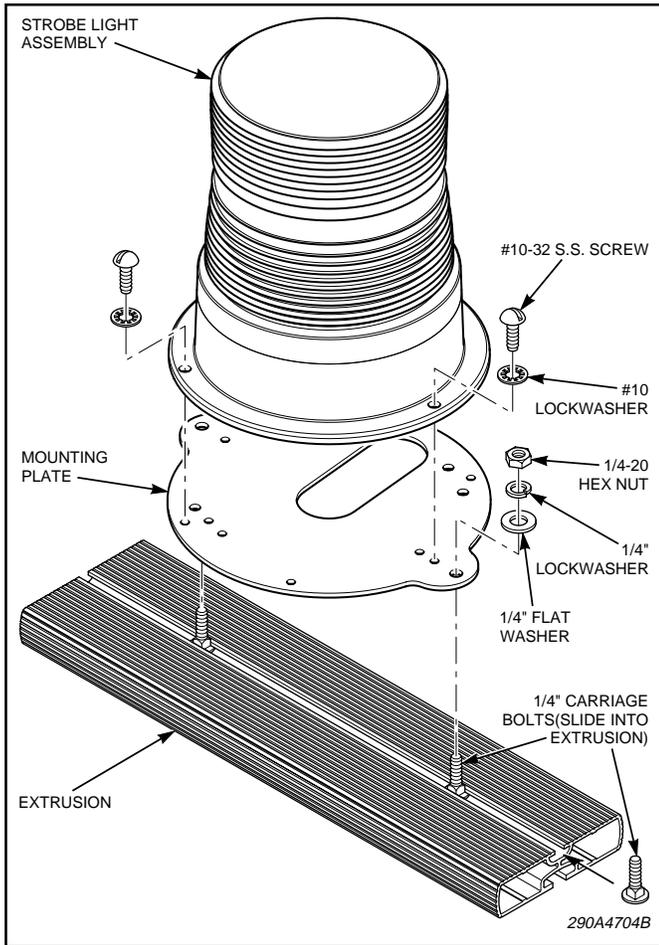
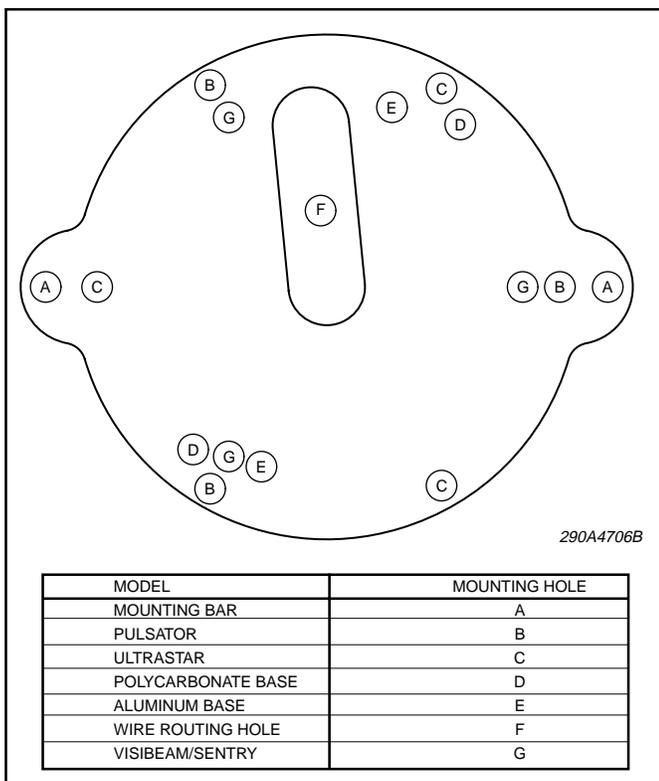

Figure 1.
Figure 2.
C. Secure the beacon assembly to the mounting plate (see figure 1) using the mounting hole and hardware that corresponds to your model (see figure 2).
B. Slide the 1/4-20 x 3/4 carriage bolts (two supplied) in the smaller of the two channels (top side of the mounting bar). Slide hole "A" (see figure 2) on the mounting plate over the carriage bolt as shown in figure 1.
G. See figure 1. Secure the mounting plate and beacon assembly to the mounting bar using the 1/4" carriage bolts, flat washers, lockwashers, and hex bolts.